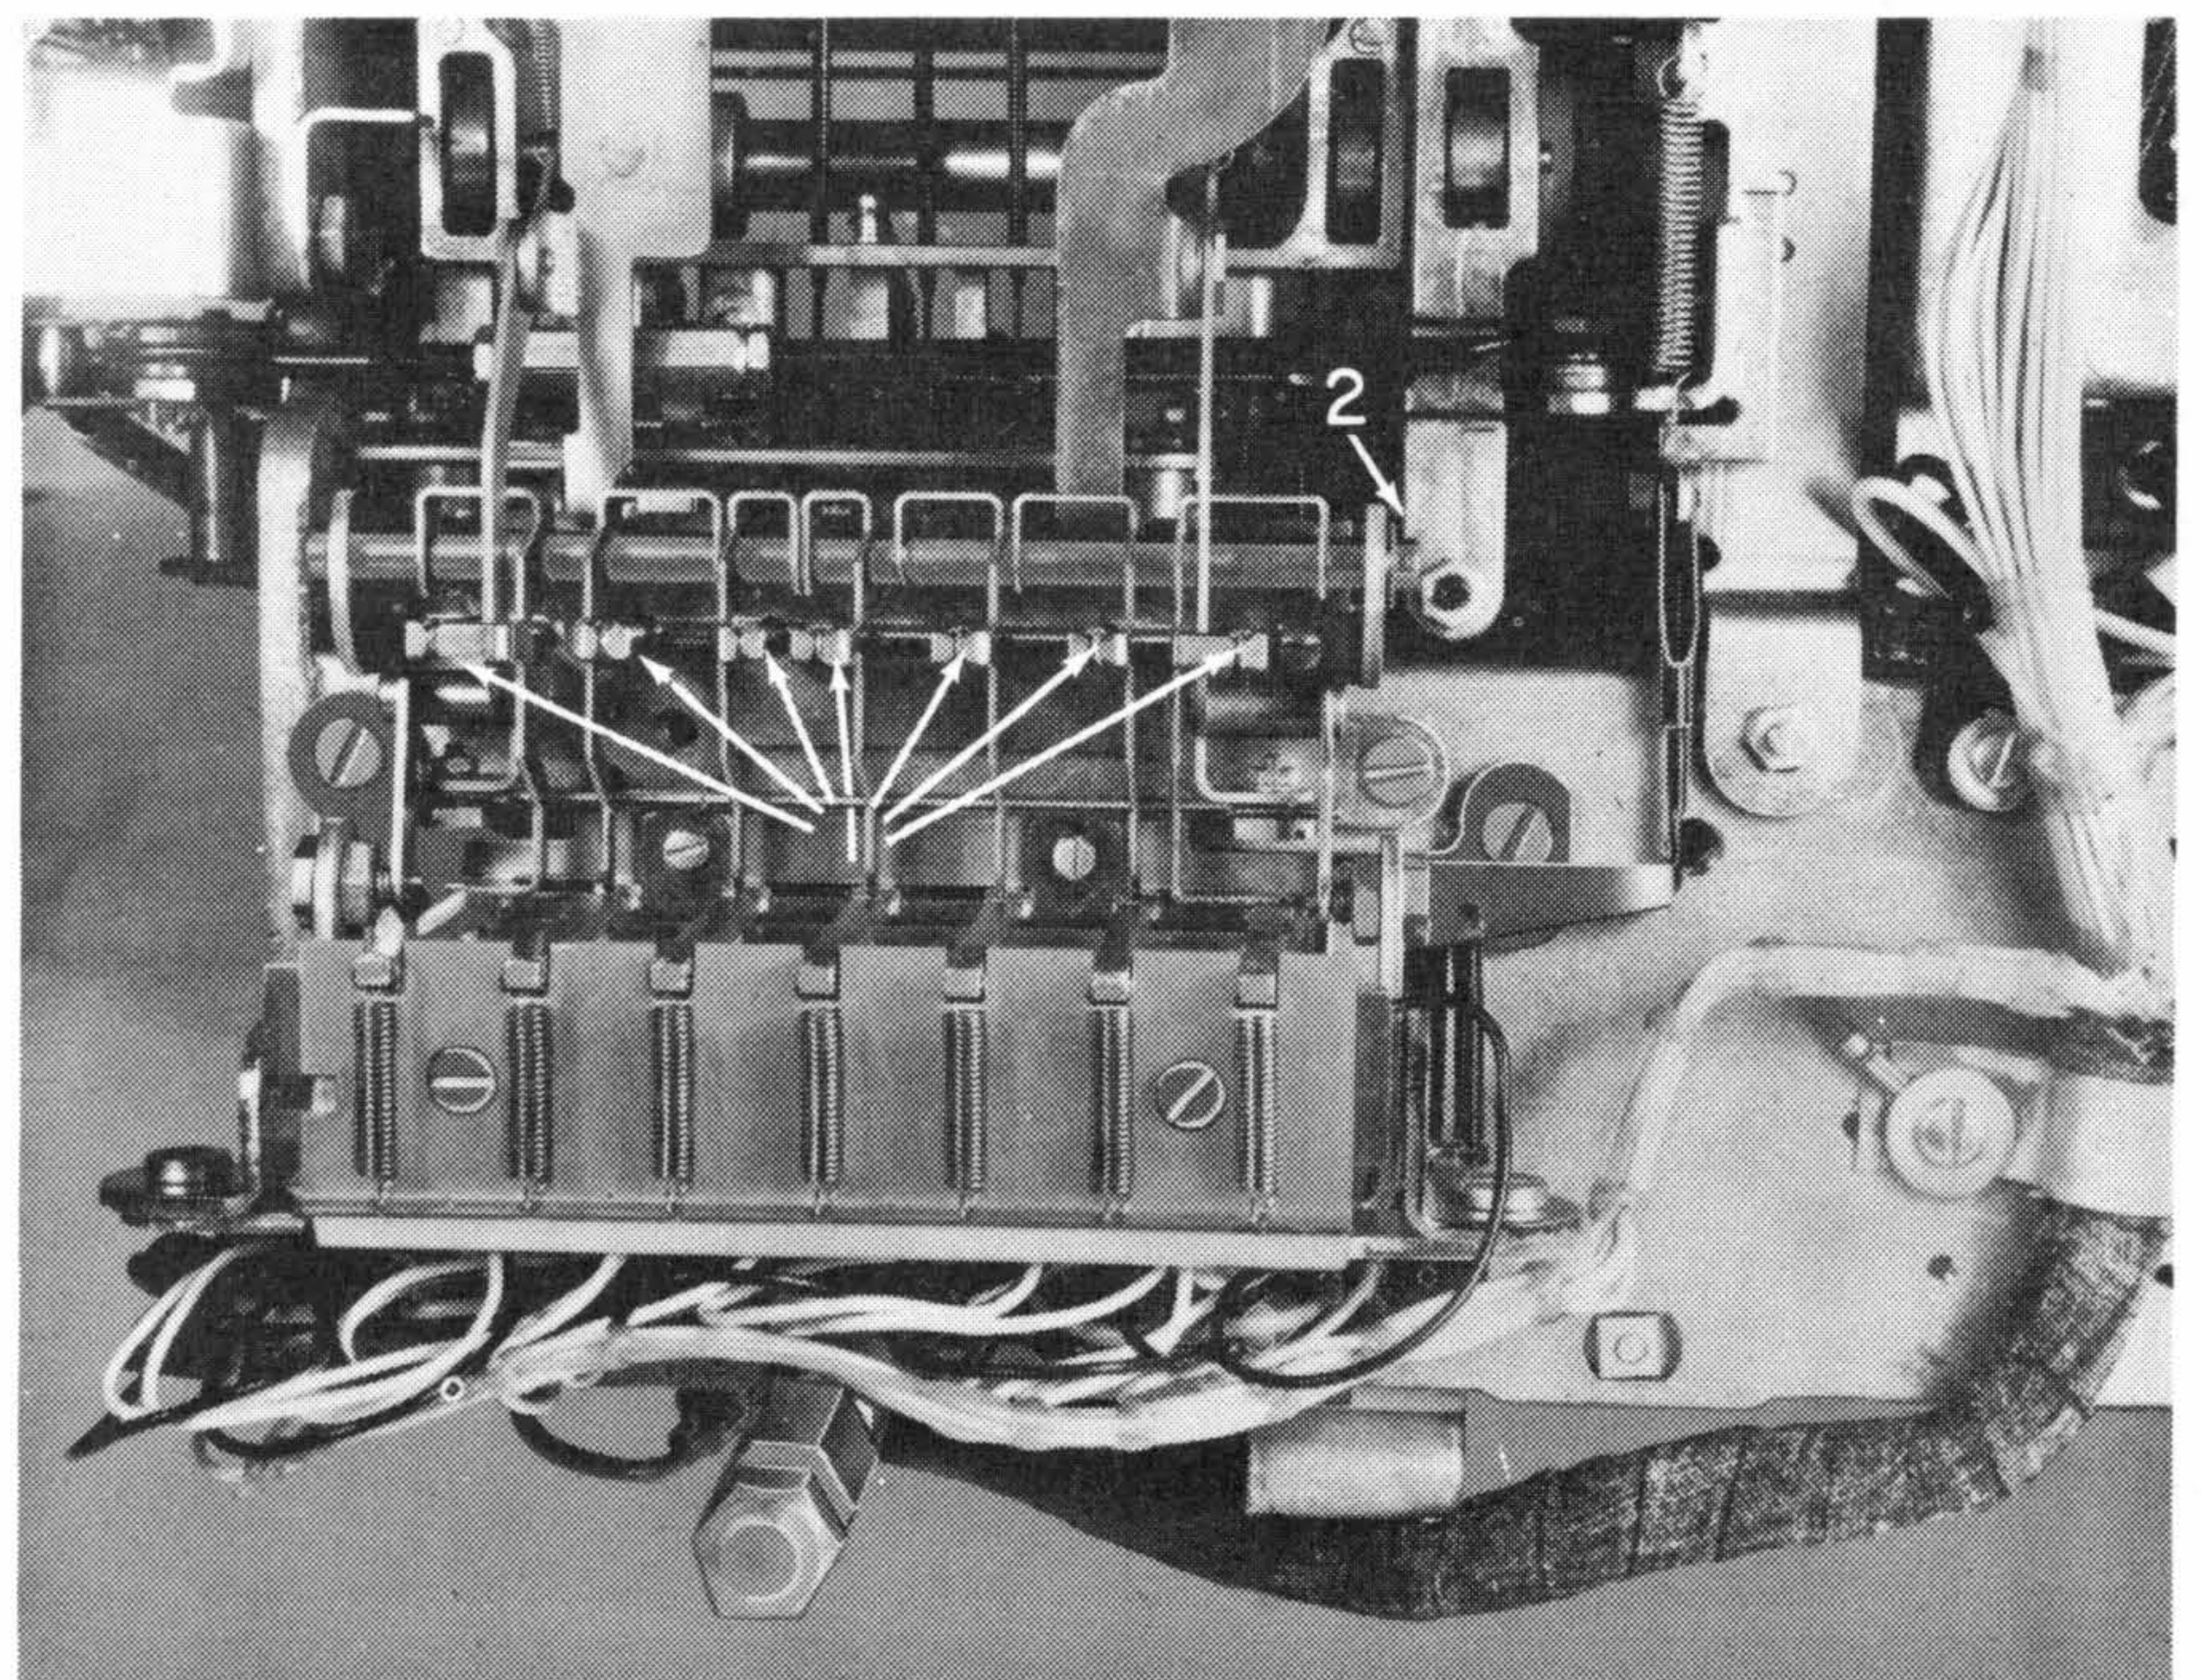

Figure 38. Latch Pusher Removal
2. Disconnect the pusher springs (#1, Figure 38).
3. Remove the C-clip on the end of the shaft (#2, Figure 38) and remove the shaft until the desired pusher is free.